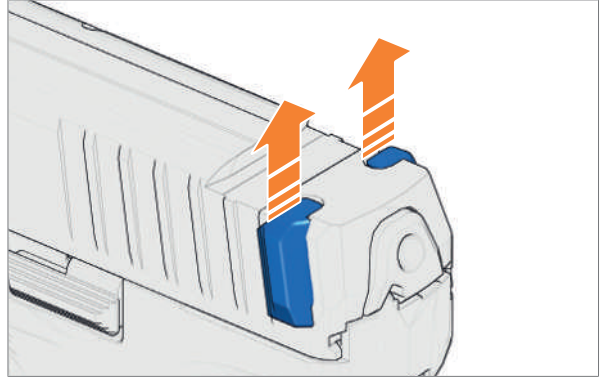

Fig. 39: Remove charging supports
2. Remove charging supports (*Fig. 39*).